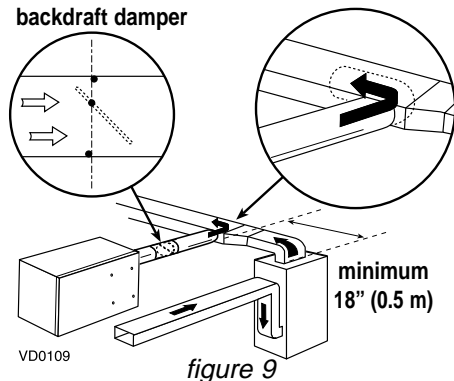

figure 9
- Connect this opening to the fresh air distribution port of the HRV/ERV (use **steel duct**, see figure 9).